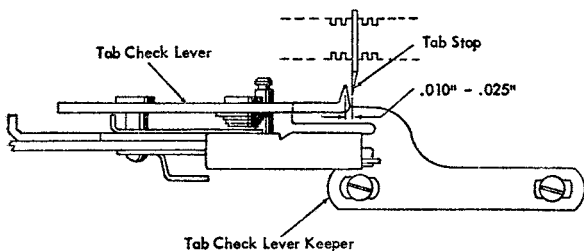
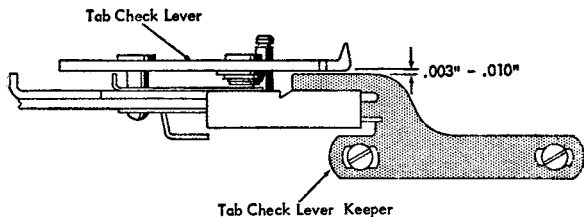

Figure 25. Tab Check Lever Adjustment
Figure 26. Tab Check Lever Adjustment
**7. TAB CHECK-LEVER KEEPER.** Position the tab check-lever keeper on the rear rail, left to right, so there is a clearance of .010" to .025" between the working surfaces of the tab check-lever and a tab stop when the parts are at rest (Figure 25). Position the keeper, front to rear, so that there is a clearance of .003" to .010" between the tab check-lever and the keeper with the tab lever latched to the rear (Figure 26.)